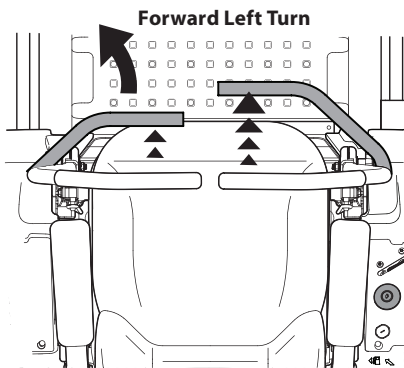

Figure 3-6
1. To turn to the left, move the left drive control lever rearward of the right lever. See Figure 3-6.